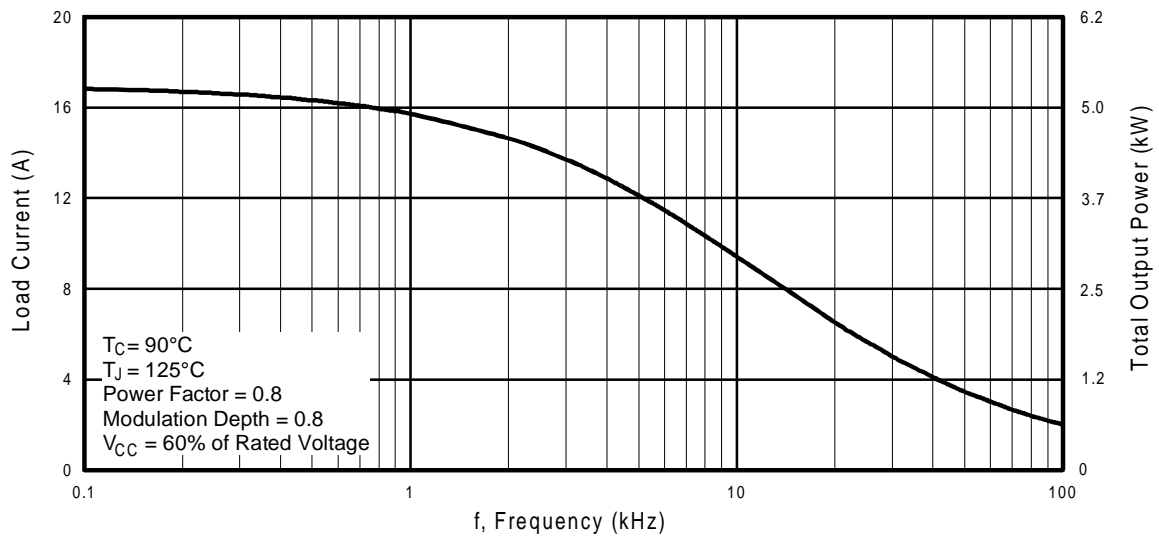

Fig. 1 - RMS Current and Output Power, Synthesized Sine Wave
- Optimized for medium operating frequency (1 to 10kHz) See Fig. 1 for Current vs. Frequency curve
12 A_{RMS} per phase (3.8 kW total) with T_C = 90°C, T_J = 125°C, Supply Voltage 360Vdc, Power Factor 0.8, Modulation Depth 80% (See Figure 1)